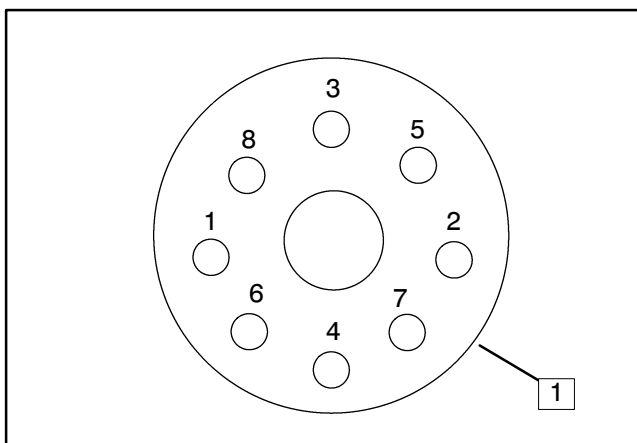

Figure 8-35. Tightening Sequence for Drive Disks
1. Secure the armature drive disks to the rotor assembly with eight screws. Tighten the screws to a torque of 28 ft. lbs. (338 in. lbs.) in the sequence shown in Figure 8-35.
secure the rotor assembly by installing eight screws. Tighten these screws to a torque of 14 ft. lbs. (168 in. lbs.) in the sequence shown in Figure 8-35.